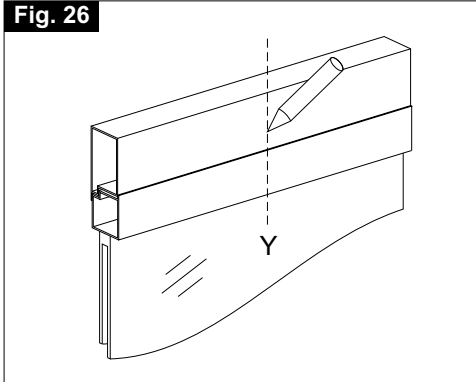

Fig. 27
- 3) **Fig. 27-** Align to the centre line the window frame connection bracket using as reference the centre line indicator (**Ref. 1**) located in the middle of the same, then mark the drilling points on the frame;